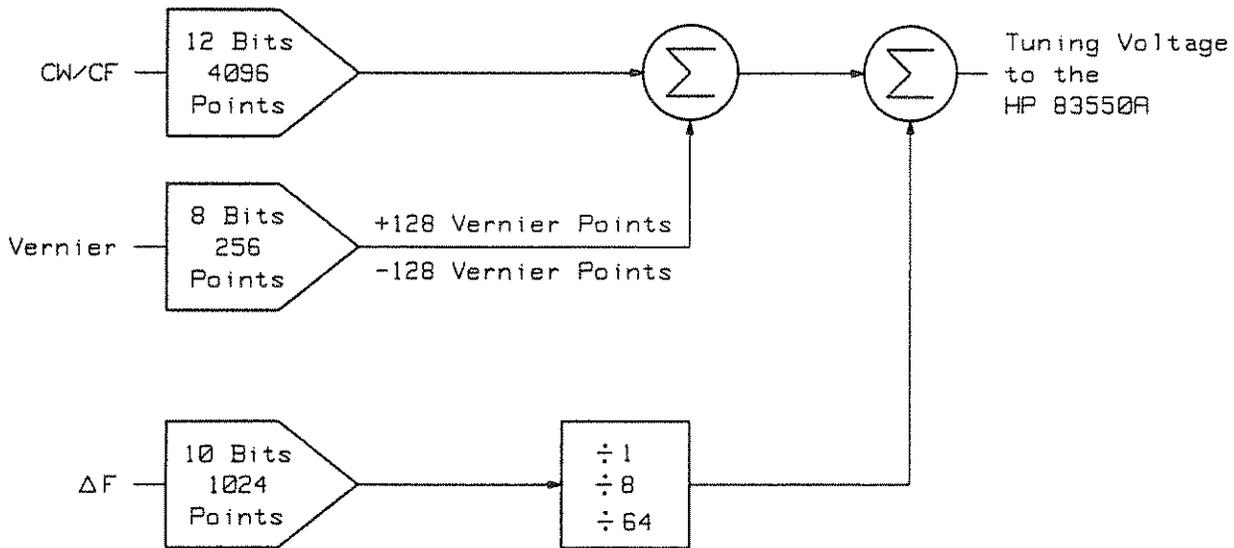

Figure 3-1. Simplified Tuning Voltage Block Diagram
Figure 3-1 is a simplified block diagram of the frequency tuning circuits in the HP 8350. The net tuning voltage results from the summation of the three DAC outputs. With this DAC configuration the START/STOP sweep mode is computed by the microprocessor into a center frequency (CF) and a  $\Delta F$  sweep width. Therefore the operation of all sweeps are set with a center frequency and sweep width. The center frequency is specified by the center frequency (CF) DAC and the vernier DAC, and the sweep width is determined by the  $\Delta F$  DAC.